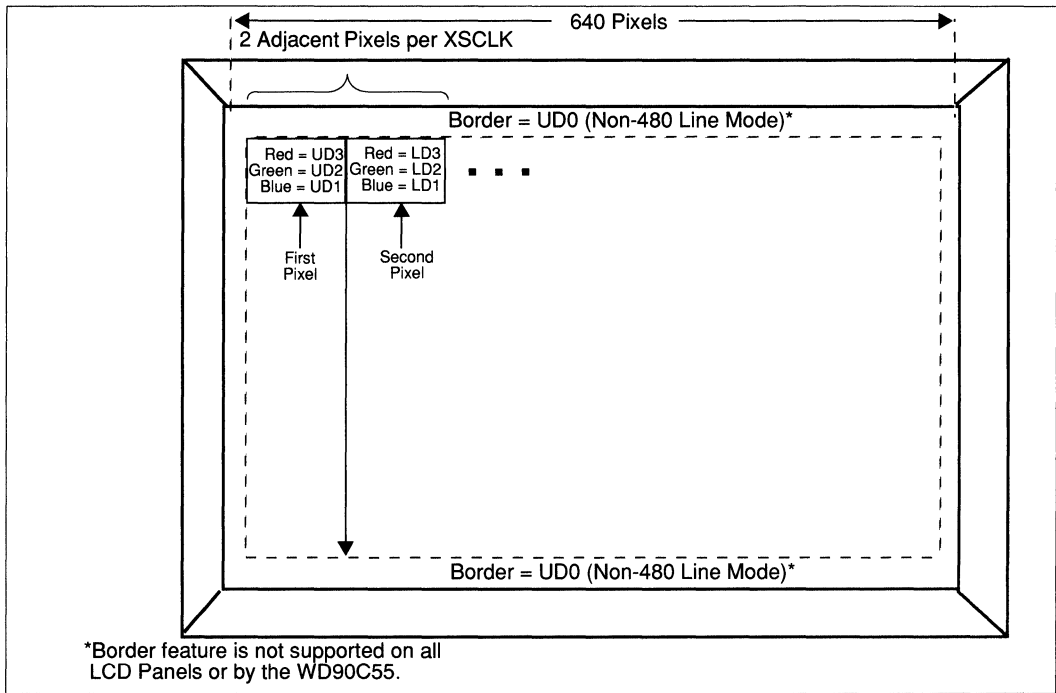

FIGURE 6-27 SINGLE-PANEL MULTIPLEXED STN COLOR LCD DATA ORGANIZATION (BEFORE WD90C55 8/16 BIT STN INTERFACE CONVERSION)
- Single-panel Multiplexed STN Color LCD Data Organization (Figure 6-27)